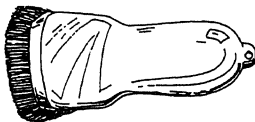

Figure 3-2.—Types of brushes and their specific uses.
**BRUSHES.**—Refer to figure 3-2 for the types of brushes and their uses that are normally found in messes.